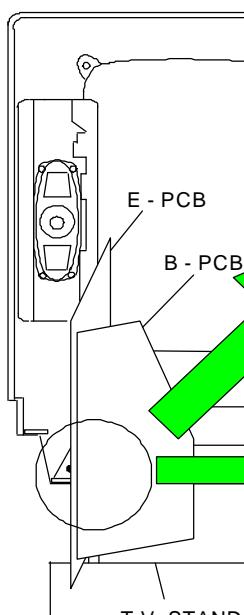

Fig.6.
- i. Release the respective wiring clips and rotate the chassis horizontally through 90° anti-clockwise, then lift the front of the chassis as shown in Fig.6.